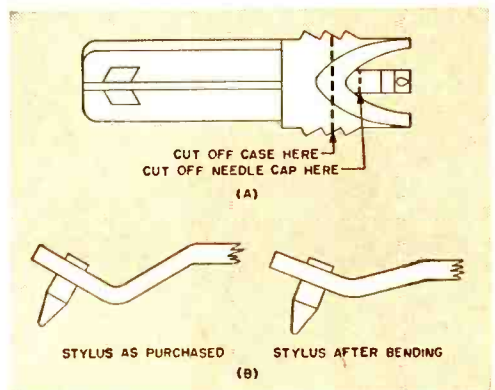

Fig. 1. Mechanical modification of Power Points and stylus before assembly as a stereo cartridge.
**Assembly.** Begin by carefully cutting off the end of each case as shown in Fig. 1(A). Use a sharp knife, and take care that no damage to the ceramic element results. With a heated knife, or razor
blade, cut  $\frac{1}{8}$ " off the end of each needle cap. Bend the stylus shank almost straight, as shown in Fig. 1(B).